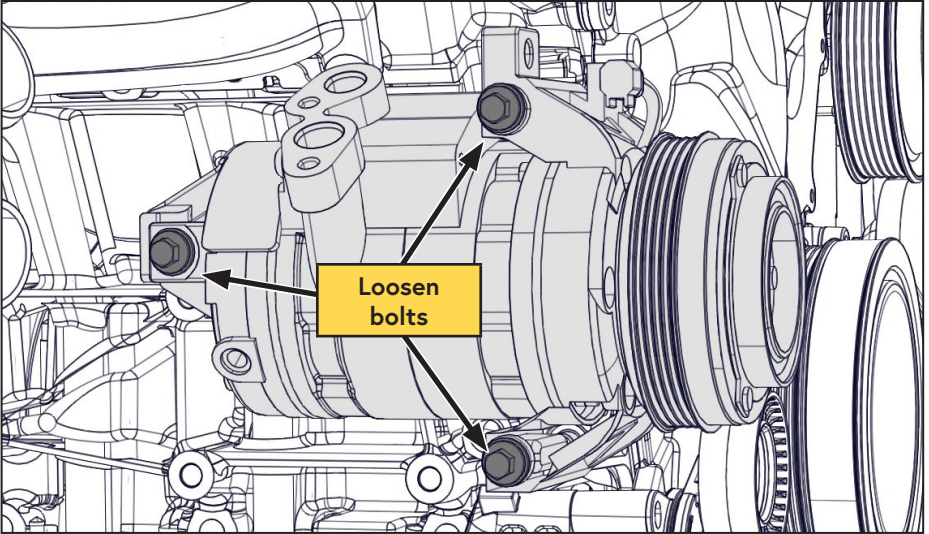

Figure 19 — A/C compressor bolts
- Loosen the 3 x M8 A/C compressor bolts until the threads are still engaged but only enough to support the A/C compressor (Figure 19).